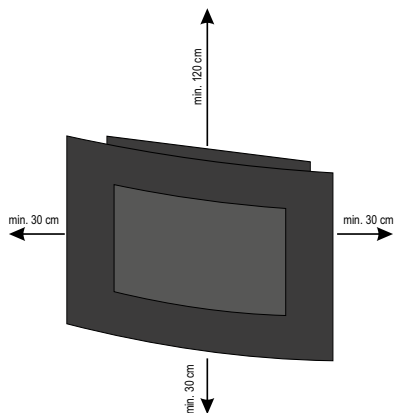

Figure 2 • 2. ábra • 2. obrázek • fig. 2. • 2. skica • 2. obrázek • Slika 2.
4. Never locate the unit directly in corners and observe the minimum locating distances indicated in Figure 2. Always observe the health and safety regulations valid in the country of use.
2. Choose the wall surface for mounting the fireplace taking Figures 2 and 3 into consideration. Please take into account that the length of the power cable is 1,7 m.